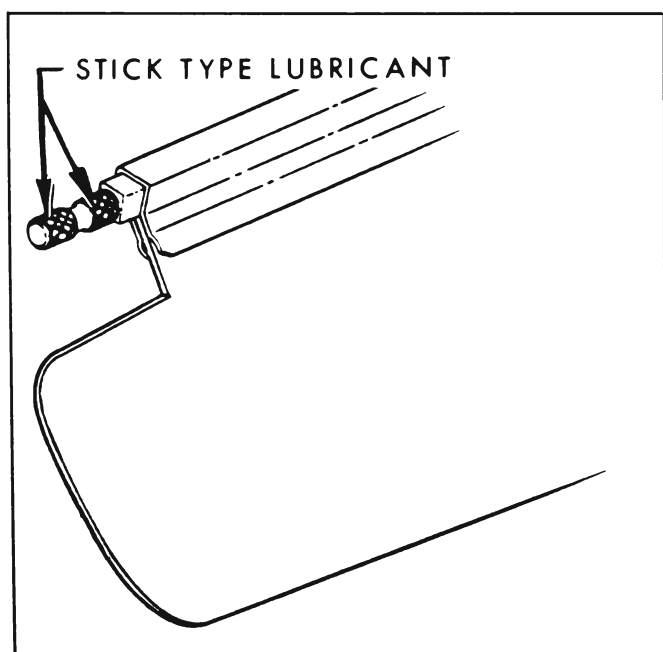

Figure 1-19—Lubrication of Sunshade Rod
18. Sunshade Lubricare. If the sunshade rod turns hard in the support as sunshade is moved up and down, remove retainer screw, pull rod from support and apply stick-type lubricant. Do not use oil, which may soil body trim. Install rod in support and adjust retainer screw to proper tension. See Figure 1-19.